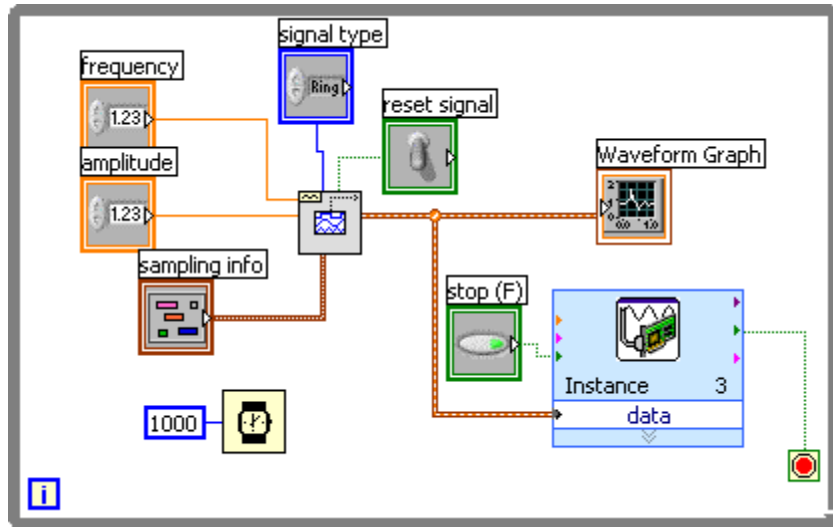

Figure 3: Simple Function Generator VI
5. Build the VI shown in Figure 3. All controls can be created by right clicking on the respective input and selecting Create Control, as can all indicators.